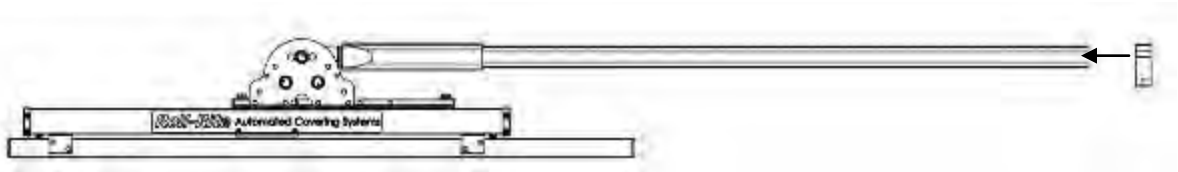

Fig. 2
- 2) With the pivot tube attached to the pivot spring pack slide the tie down over the pivot tube with the flange pointing down. Slide the tie down as far on as you can go and slightly snug one set screw (see Fig. 2).